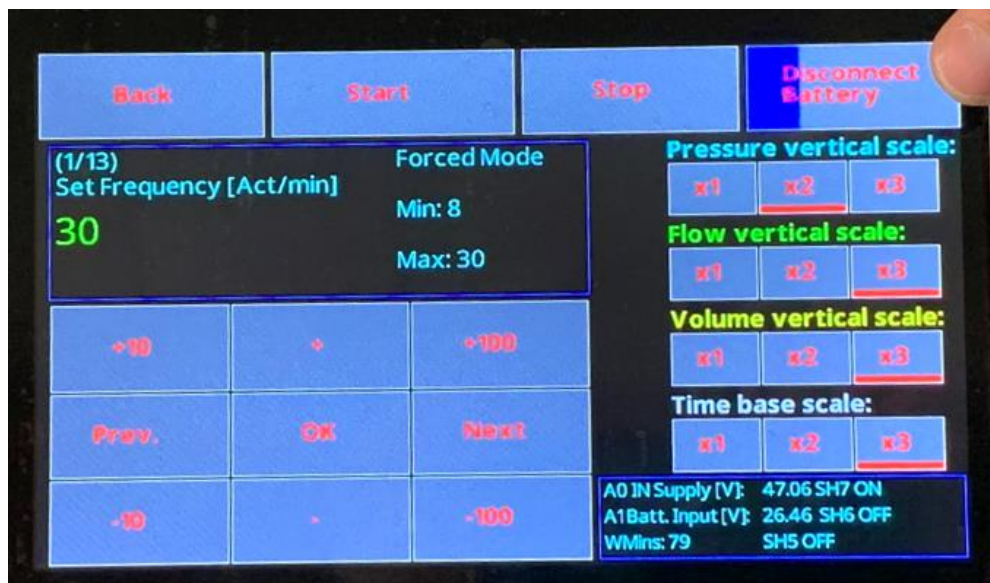

Figure 6.33. To turn off the ventilation push and hold the ‘Disconnect Battery’ button until the blue bar completely covers the button as shown.
- 2- Press and hold for more than 2 seconds “Disconnect Battery” button, until the active bar display inside the button does not cover its entirety (Figure 6.33)